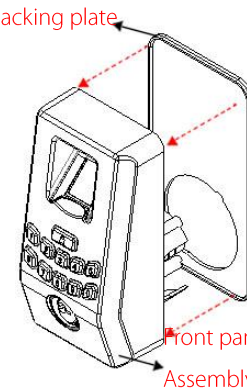

Figure 14
1. Install a **Silica gel backing plate** on the **Front panel Assembly** (moisture proof / waterproof). As shown in **Figure 14**.